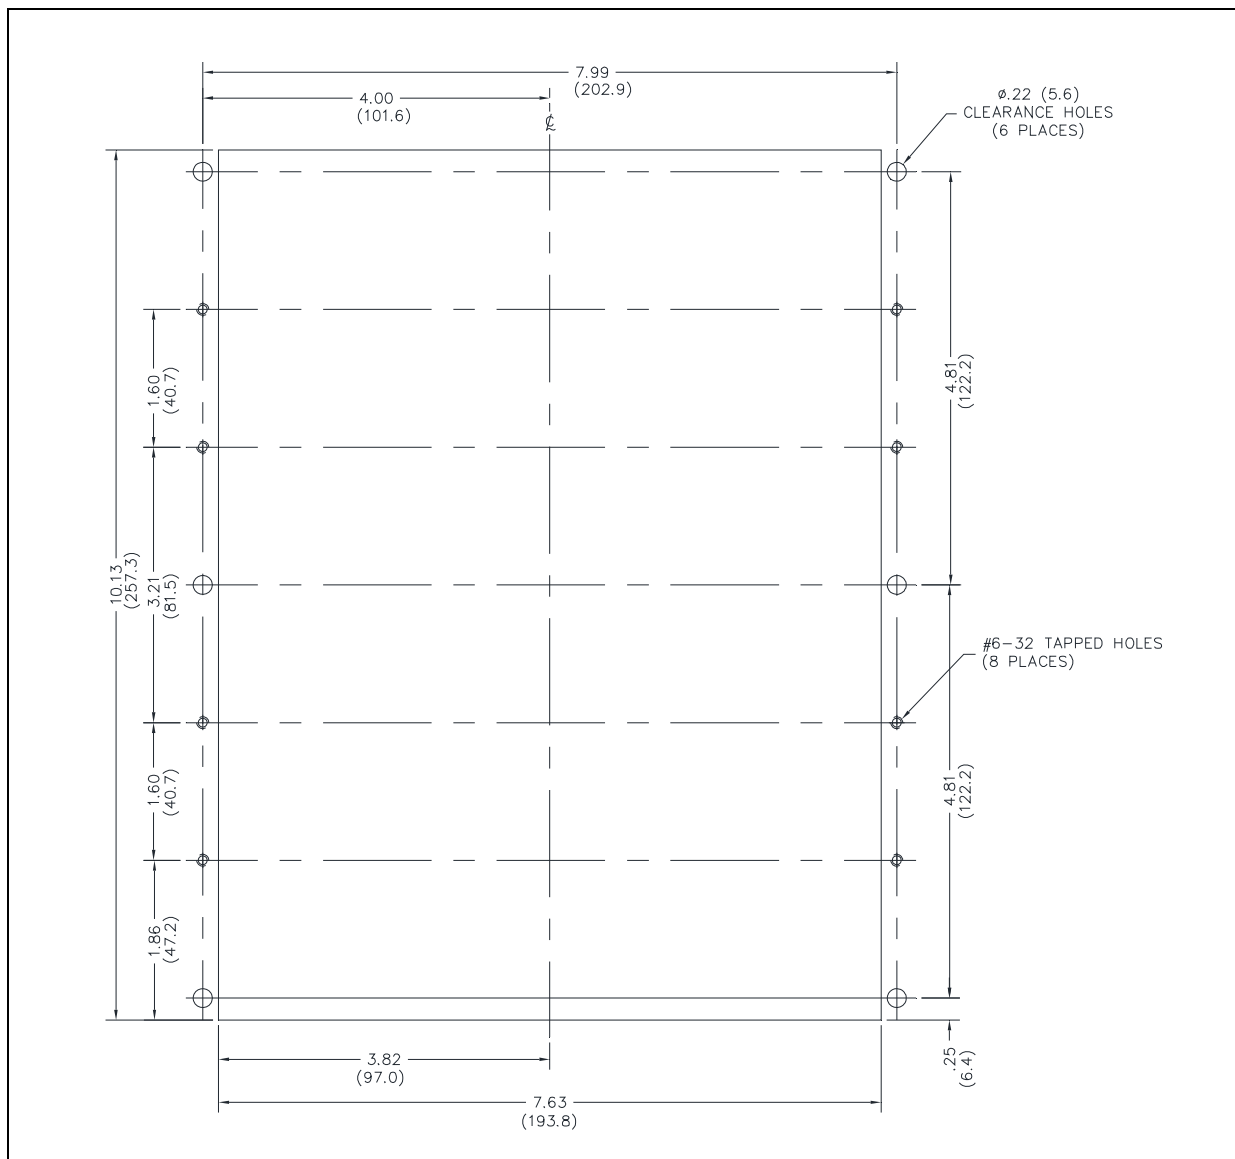

Figure 3. Cutout Detail for GRC600SS
3. Mount the back box to the structure using appropriate hardware (see Figure 3 for cutout dimensions).